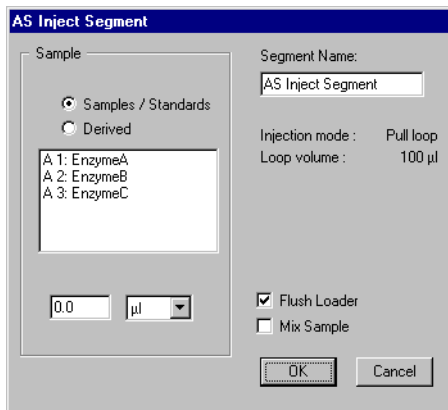

Figure 6-11 Autosampler Inject Segment Dialog Box (Integrated Autosampler)
2. Click the Segment **AI** button to display the Autosampler Inject Segment dialog box (Figure 6-11).